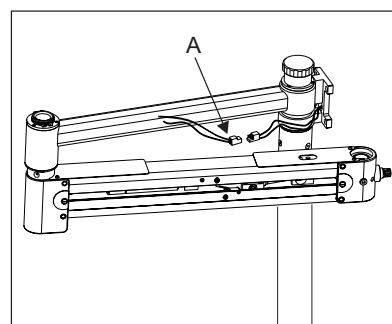

Fig. 8
- 7.10 Connect two appropriate male female connectors provided for electrical connection. See fig 8. Do not pull the cables too much to join the connector's. Additional force can damage wire connections.